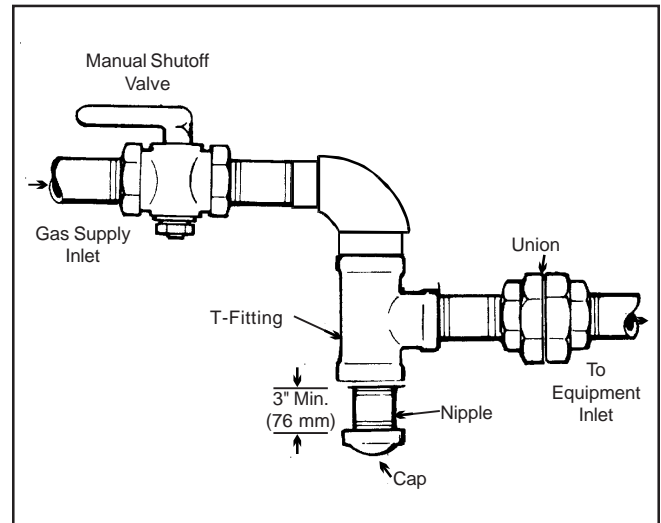

Figure 5. The proper design for a sediment trap / drip leg.
4. Install a sediment trap (drip leg) ahead of the gas controls (see Figure 5). Fit the trap with a threaded cap which can be removed for cleaning.